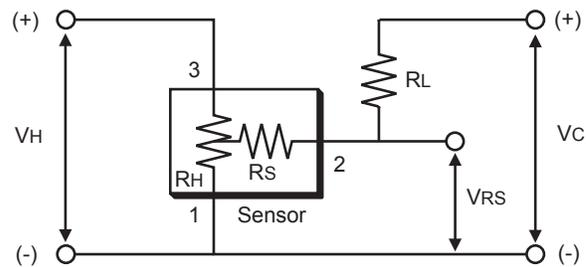

Figure 4 - Basic measuring circuit
Circuit voltage (VC) is applied between both ends of the sensor (Rs) and a load resistor (RL), which are connected in series, to allow measurement of voltage (VRS) as shown in Figure 4.